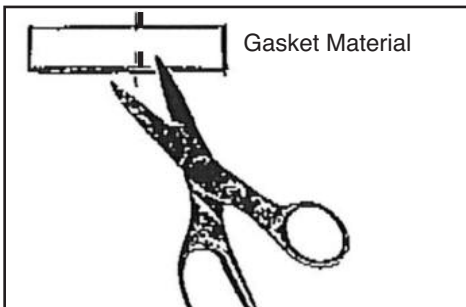

Figure 2
3. Cut each Gasket into 2 pieces. You will need 1 piece for each **half** of the Clamp. **(Scissor) Figure 2**
4. Before removing paper backing from Gasket, fit Gasket to Clamp to verify correct length. Cut Gasket material to exact length of Clamp half. **(Scissor) Figure 2 and 3**
**Figure 2 and 3**